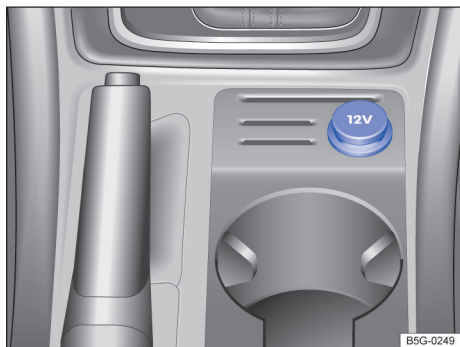
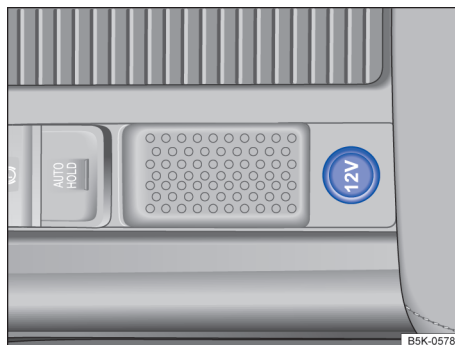

Fig. 138 In the lower center console: 12 Volt socket (vehicles with parking brake lever).
Fig. 139 In the lower center console: 12 Volt socket (vehicles with electronic parking brake).
- In the lower center console → fig. 138 or → fig. 139, depending on equipment.